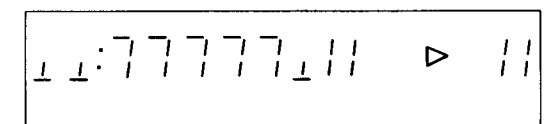

Fig. 6
- Press the "9" button on the remote controller. The indications will appear as shown in Fig. 6.